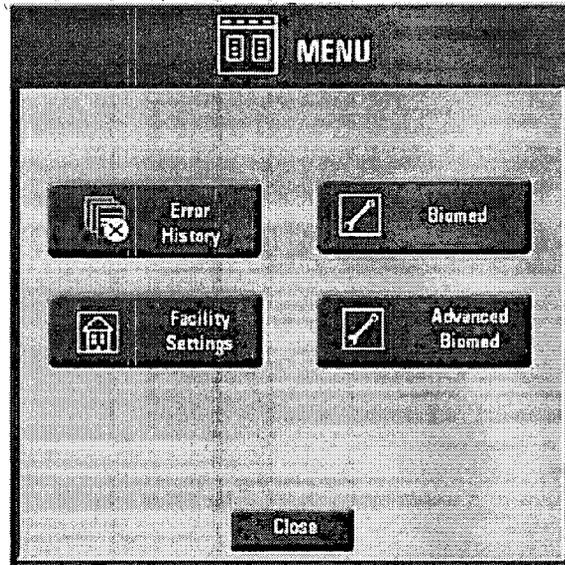

Figure 5-9 PRU Menu Screen
7. When you have finished changing all your selected Facility Settings, press **Close** from the Facility Settings screen. You will be returned to the Menu screen (refer to Figure 5-9 on page 5-11).